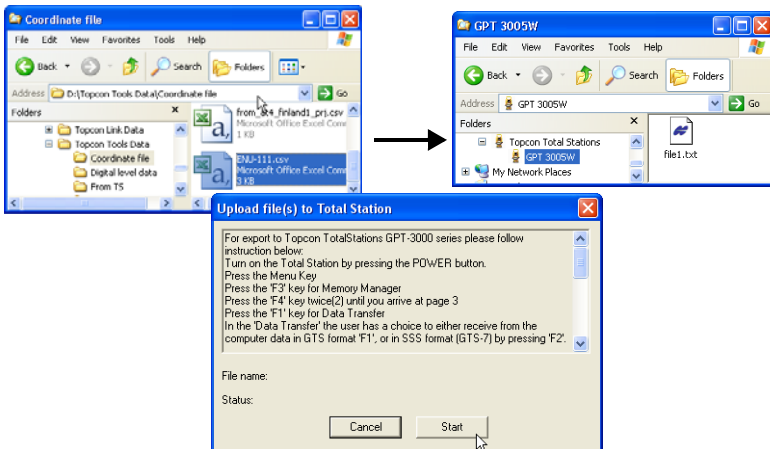

Figure 8-21. Start of Export a Coordinate File to the Total Station
6. Follow all the steps given in the *Upload File(s) to Total Station* dialog box to prepare the Total Station for exporting file (Figure 8-21).
7. When ready to send the file, press **F3** for “yes” at the Total Station. Click **Start** in the *Upload File(s) to Total Station* dialog box (Figure 8-21). The upload process begins.